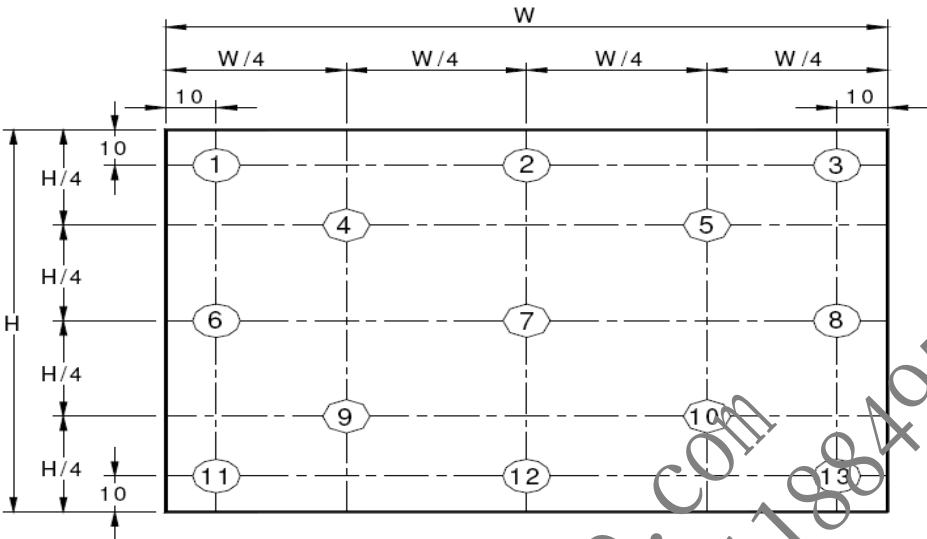

Figure 9. Uniformity Measurement Locations (13 points)
Notes : 1. Viewing angle is the angle at which the contrast ratio is greater than 10. The viewing angles are determined for the horizontal or 3, 9 o'clock direction and the vertical or 6, 12 o'clock direction with respect to the optical axis which is normal to the LCD surface (see Figure 7). 2. Contrast measurements shall be made at viewing angle of $\Theta = 0$ and at the center of the LCD surface. Luminance shall be measured with all pixels in the view field set first to white, then to the dark (black) state . (see Figure 7) Luminance Contrast Ratio (CR) is defined mathematically. CR = Luminance when displaying a white raster Luminance when displaying a black raster 3. Center Luminance of white is defined as luminance values of 5 point average across the LCD surface. Luminance shall be measured with all pixels in the view field set first to white. This measurement shall be taken at the locations shown in Figure 8 for a total of the measurements per display. 4. The White luminance uniformity on LCD surface is then expressed as : $\Delta Y = \text{Minimum Luminance of 5(or 13) points} / \text{Maximum Luminance of 5(or 13) points.}$(see Figure 8 and Figure 9). 5. The color chromaticity coordinates specified in Table 5 shall be calculated from the spectral data measured with all pixels first in red, green, blue and white. Measurements shall be made at the center of the panel. 6. The electro-optical response time measurements shall be made as Figure 10 by switching the “data” input signal ON and OFF. The times needed for the luminance to change from 10% to 90% is Tr, and 90% to 10% is Tf. 7. Cross-Talk of one area of the LCD surface by another shall be measured by comparing the luminance (YA) of a 25mm diameter area, with all display pixels set to a gray level, to the luminance (YB) of that same area when any adjacent area is driven dark. (See Figure 11).
The White luminance uniformity on LCD surface is then expressed as : $\Delta Y5$ = Minimum Luminance of five points / Maximum Luminance of five points (see Figure 8) , $\Delta Y13$ = Minimum Luminance of 13 points /Maximum Luminance of 13 points (see Figure 9).